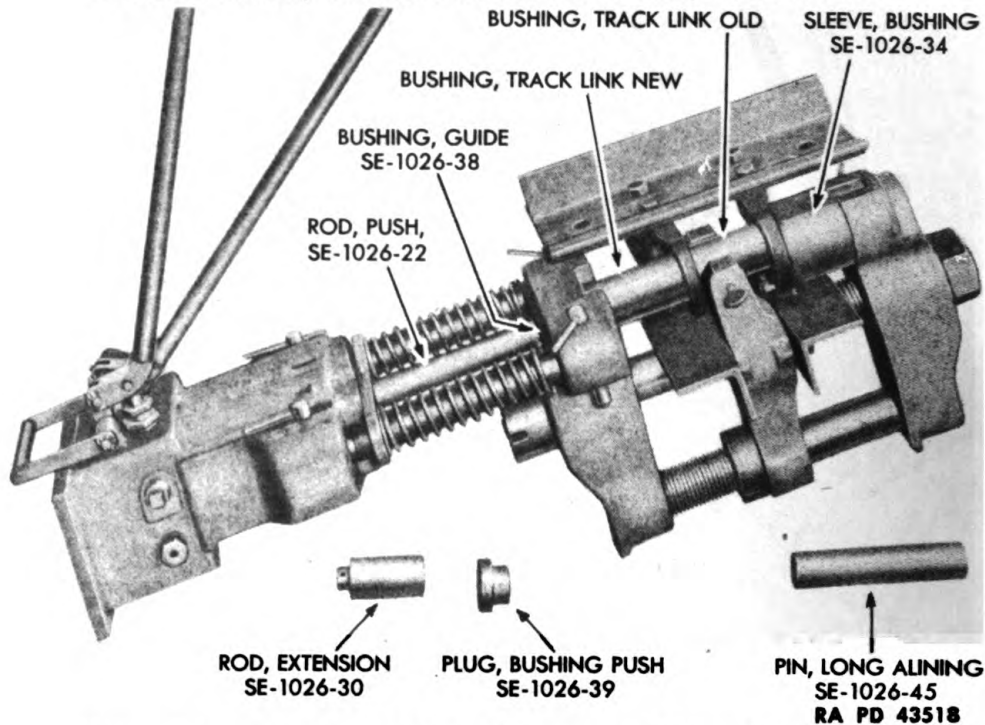

Figure 164 – Pushing Old Bushing Out and New Bushing in, in Same Operation (Shoes Assembled)
(8) PUSH OLD BUSHING OUT AND NEW BUSHING IN, IN SAME OPERATION (WITH SHOES ASSEMBLED TO LINKS) (fig. 164).